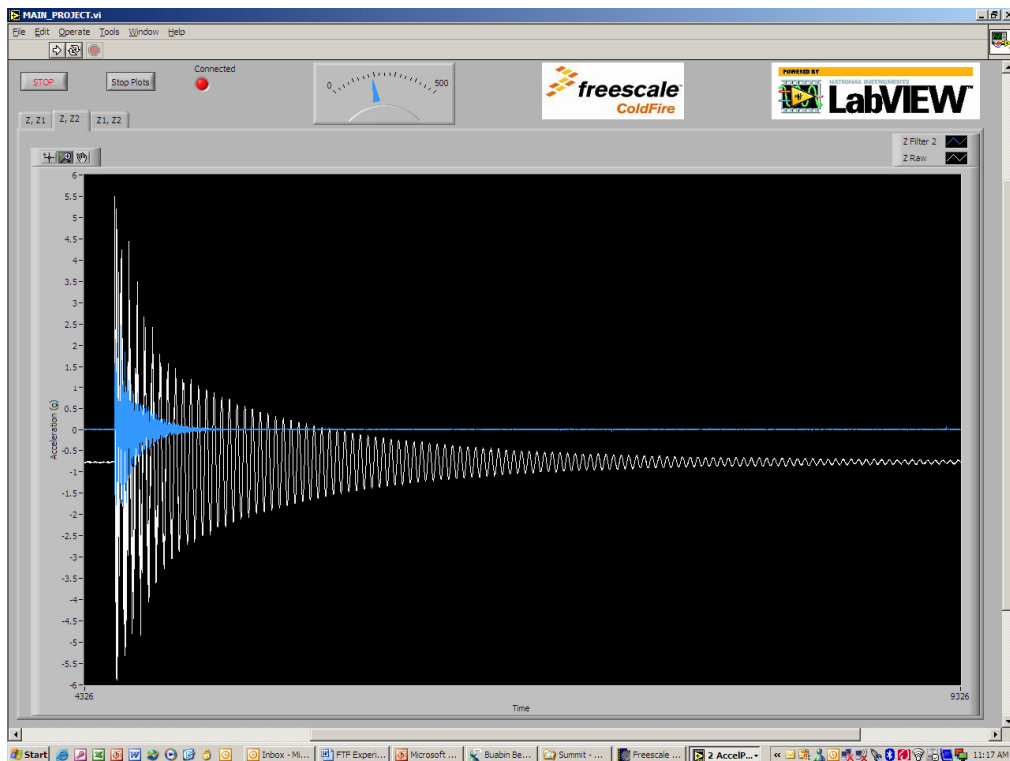

Figure 2b: Measured and high pass filtered signals ($f_c=350$ Hz)
- g. The tab labeled “Z, Z2” displays the raw signal and the high pass filtered signal (Figure 2b), with frequency content greater than 350 Hz.
- f. The tab labeled “Z, Z2” displays the raw signal and the High pass filtered signal (Figure 2b).